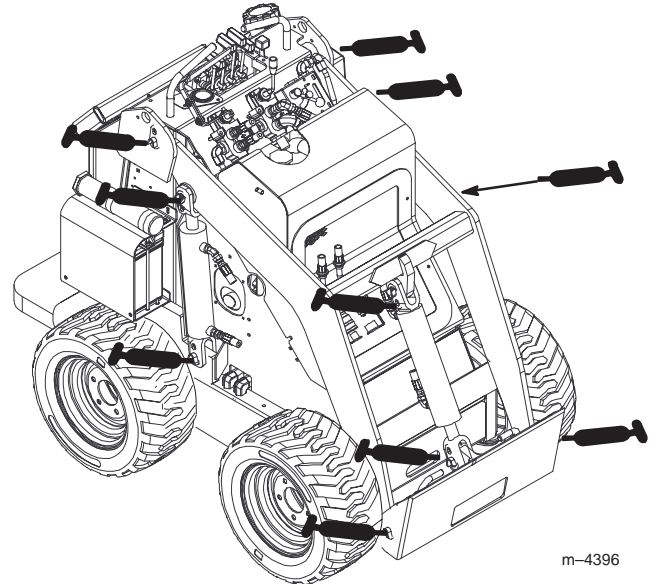

Figure 24
3. Connect a grease gun to each fitting (Fig 24 and 25).